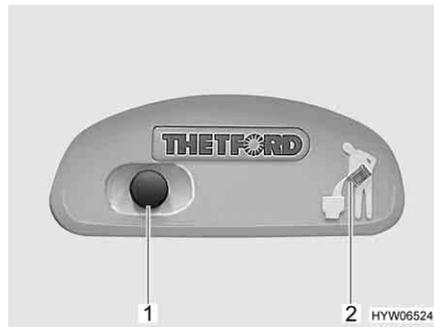
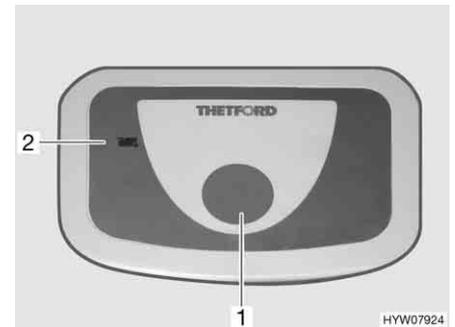

Fig. 193 Flush button/indicator lamp Thetford toilet
Fig. 194 Flush button/indicator lamp Thetford toilet (alternative)
- For flushing, press the blue flush button (Fig. 193,1 or Fig. 194,1).
The indicator lamp (Fig. 193,2 or Fig. 194,2) lights up whenever the sewage tank has to be emptied.